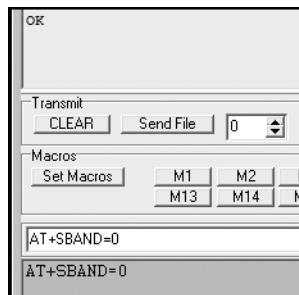

Figure 20-6: Successful band change
5. To set the GSM module to the required band, enter the command **AT+SBAND=x**, where **x** is the band number selected from Table 20-1. The shield should return *OK*, as shown in Figure 20-6.